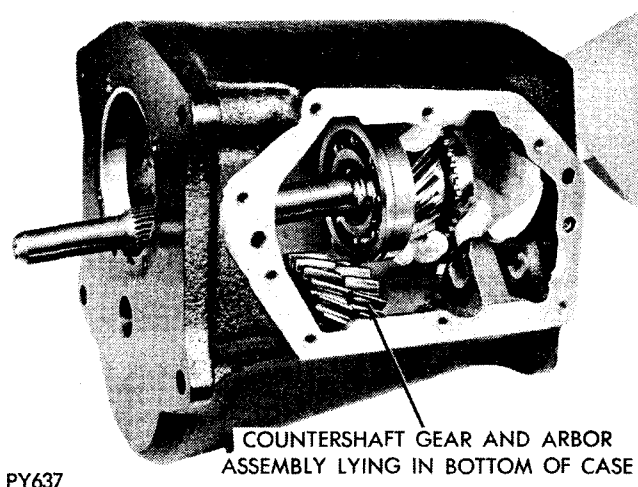

Fig. 12—Drive Pinion and Bearing Assembly—Removal or Installation
(4) Using a plastic hammer, drive the pinion into case and remove through rear (Fig. 12).
(10) Install drive pinion and bearing assembly into case (Fig. 12).